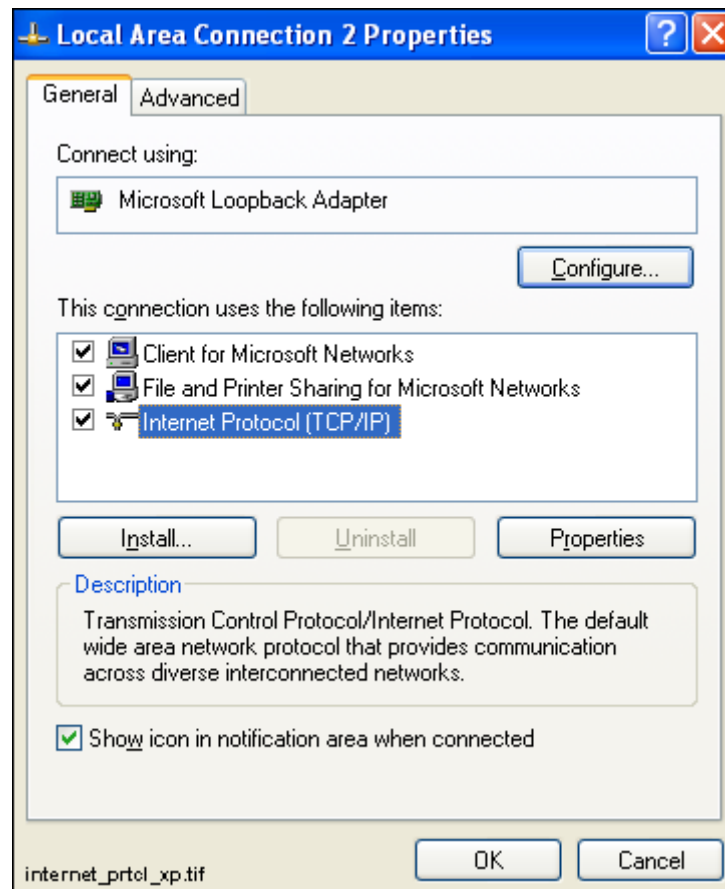

Fig. 5.10.-21 Opening Internet Protocol (TCP/IP) properties in Windows XP
4. Choose “Use the following IP address” (see Figure 5.10.-22). Set the IP Address to ‘192.168.0.1’ (see Section 5.10.1. for details) and the Subnet Mask to ‘255.255.255.0’. The Default Gateway can be left empty. Click OK.